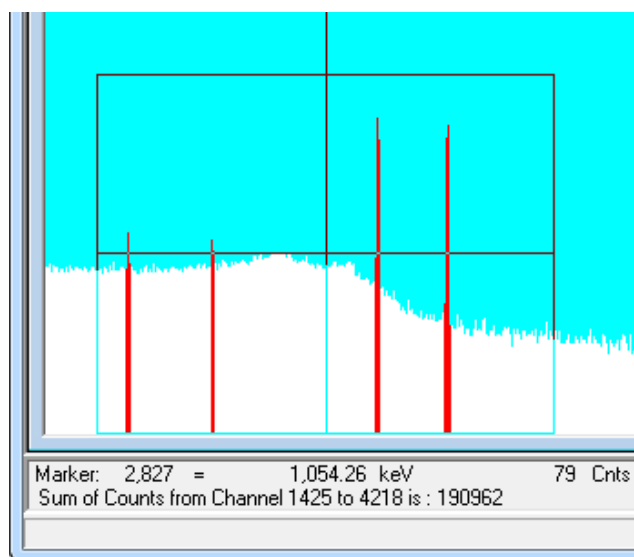

Fig. 63. Summing the Channels Within a Rubber Rectangle.
3. You can also sum a region by marking it with a rubber rectangle, then selecting **Sum**. This is illustrated in Fig. 63.